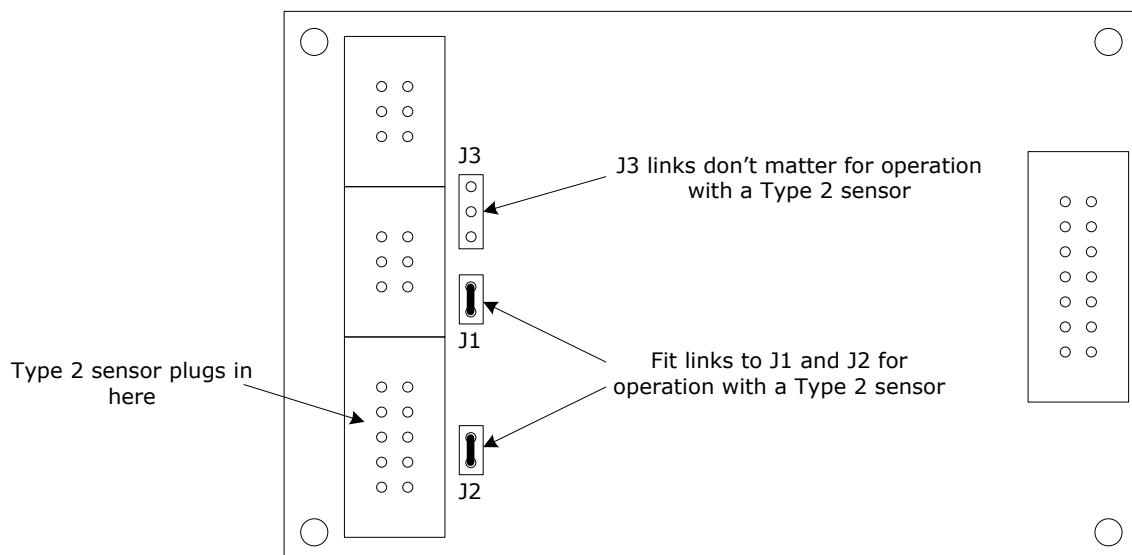

Figure 6 Link settings for a Type 2 sensor
Type 2 sensors include a single excitation coil and two COS/SIN sensor coil pairs, one fine (A) and one coarse (B), like Type 6 sensors. The difference is that the excitation coil is driven from full bridge MOSFET circuitry, so that both excitation coil connections are separately connected. The remaining four sensor coils may share a common return connected to VREF. The CAM312 Development Board can processes one Type 2 sensor when configured as shown in Figure 6.